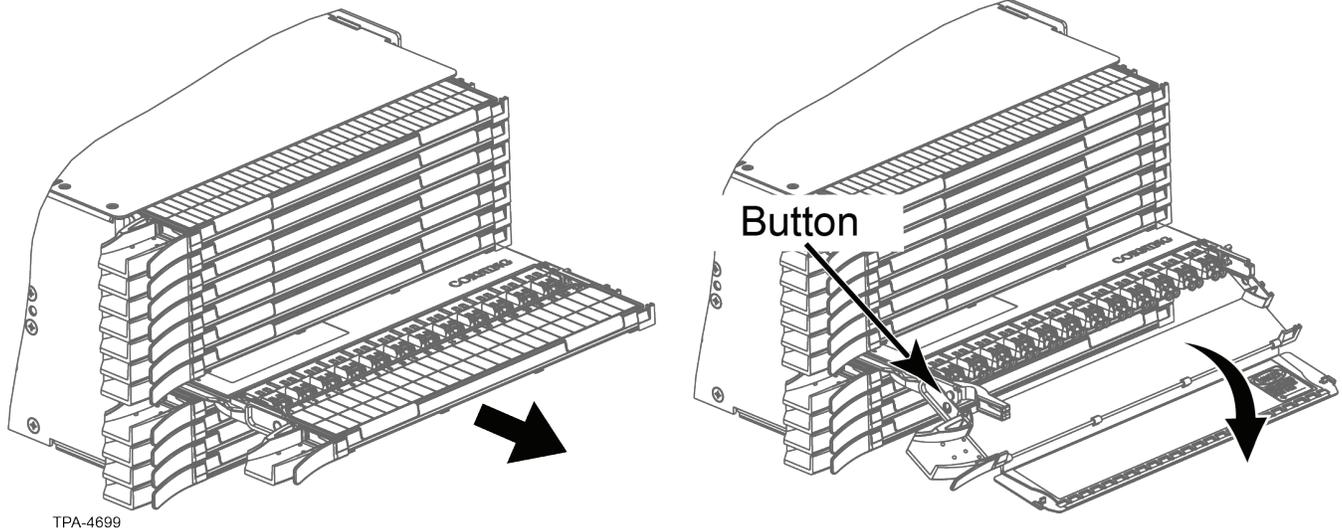

Figure 64
**Step 1:** Press latch on right side of cassette and pull cassette out to detent position (Figure 64).
**Step 3:** Open the handle cover (Figure 64 right).
- Step 3:** Press buttons on each side of the cassette and lower the handle as shown in Figure 64.